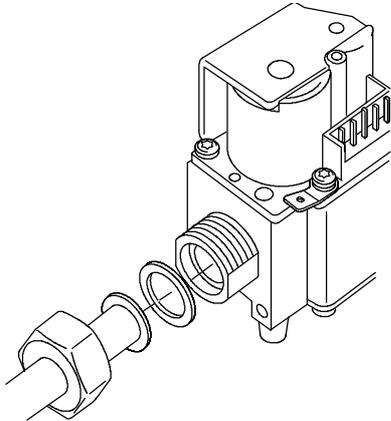

Fig. 12. External thread G^{1/2}” connection with nut and flat sealing ring
- ① **With nut and flat sealing ring for pipe 14 mm (see fig 12.)**
② **With nut and flat sealing ring for pipe 15 mm (see fig 12.)**